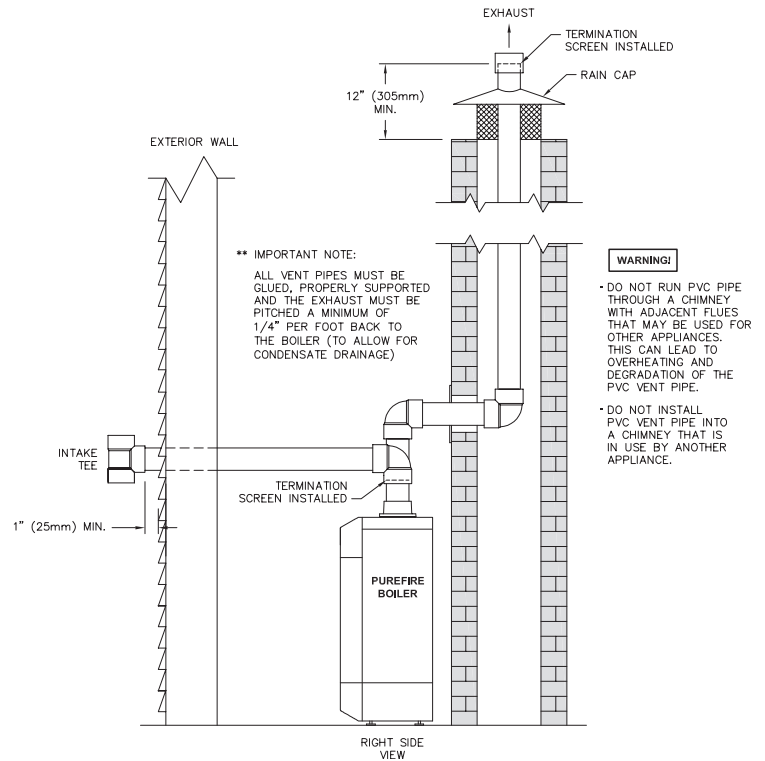

Figure 3.11: Venting Through a Chimney Using Sidewall Outside Air
- f. Figure 3.11 shows this option using inlet air from a sidewall position.